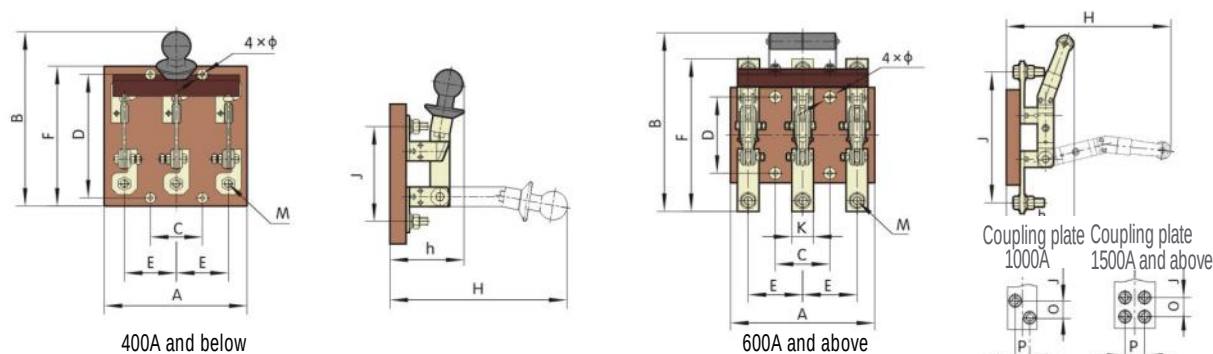

Figure 1
5.1 Connect cables to the front HD11 board (see Figure 1 and Table 2).